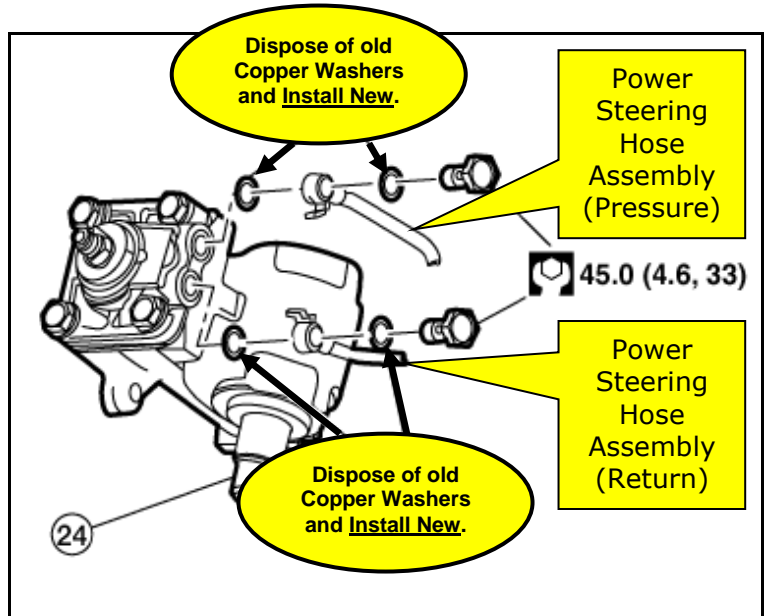

Figure 7
5. Install Power Steering Hose Assembly **(Pressure & Return)** connection eye bolts with four new copper sealing washers (Figure 7).